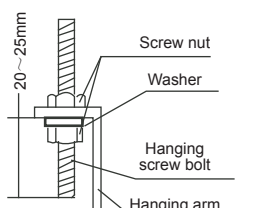

Fig. 5-9
- Locate the hanging arm on the hanging screw bolt. (Refer to Fig. 5-9)